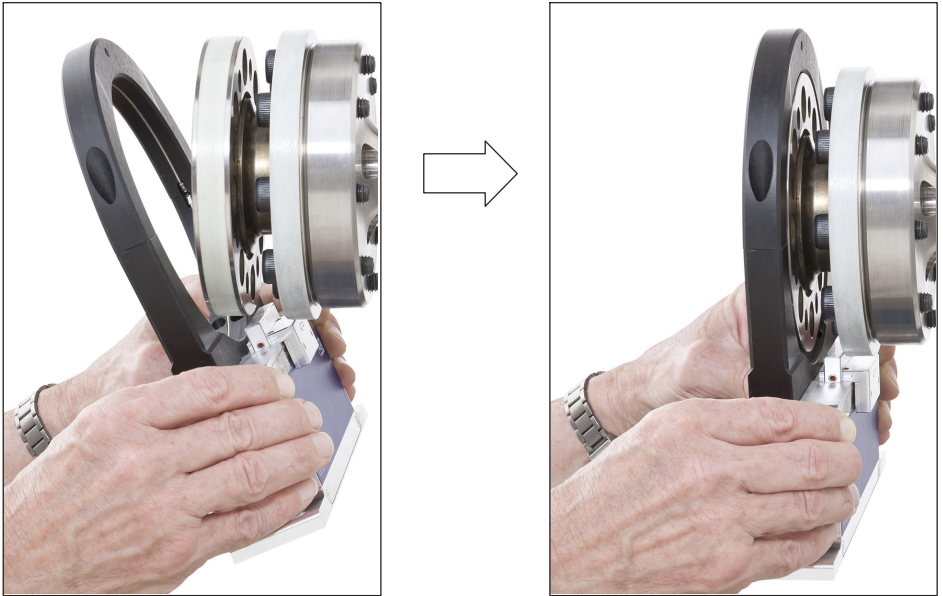

Fig. 5.5 Aligning the rotor with the stator (with reference signal sensor)
- ▶ Tilt the stator slightly (see Fig. 5.5 left), so that the bracket with the sensor head for the reference signal (zero index) is between the two flanges. Now tip the stator over the rotor until the antenna ring completely covers the flange with the transmitter winding (see Fig. 5.5 right).